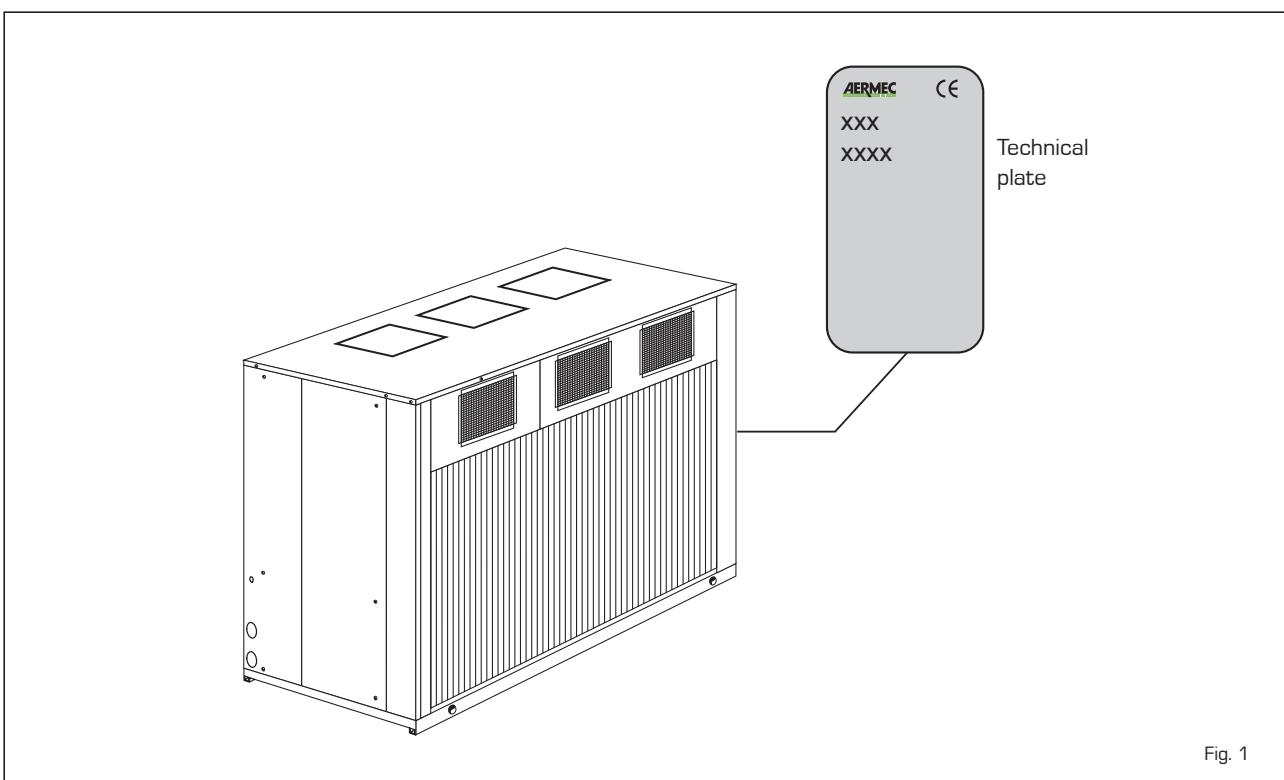

Fig. 1
- Check the electrical characteristics shown on the registration plate [fig.1] before making the electrical connections. Read the instructions in the specific section about electrical connections.